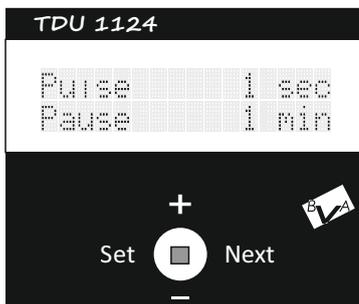

fig.11
3. Pulse generator setting. see fig 11.